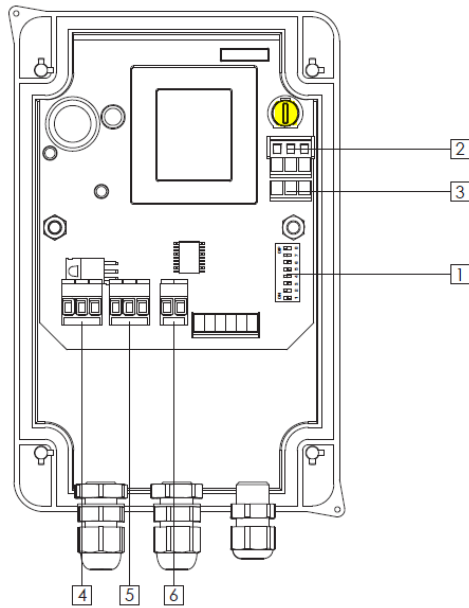

fig 1.
- If the Green LED is not lit, check fuse in spur and the glass fuse within the Control box. Highlighted in **fig 1**.